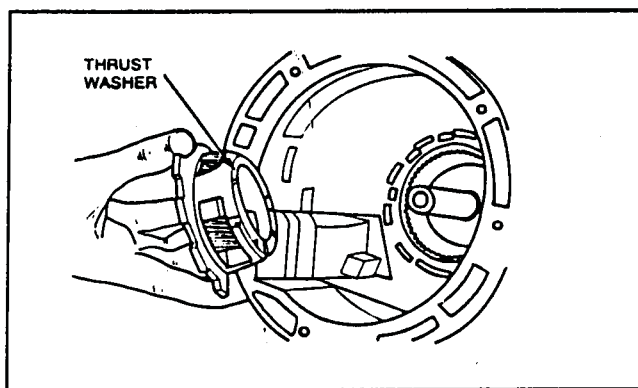

FIG. 44 Planet Carrier Installation
6. Position thrust washer No. 9 to the back of the planet system carrier with light grease or petroleum jelly. Install the planet system carrier (Fig. 44) and secure to the reverse brake drum with the snap ring.